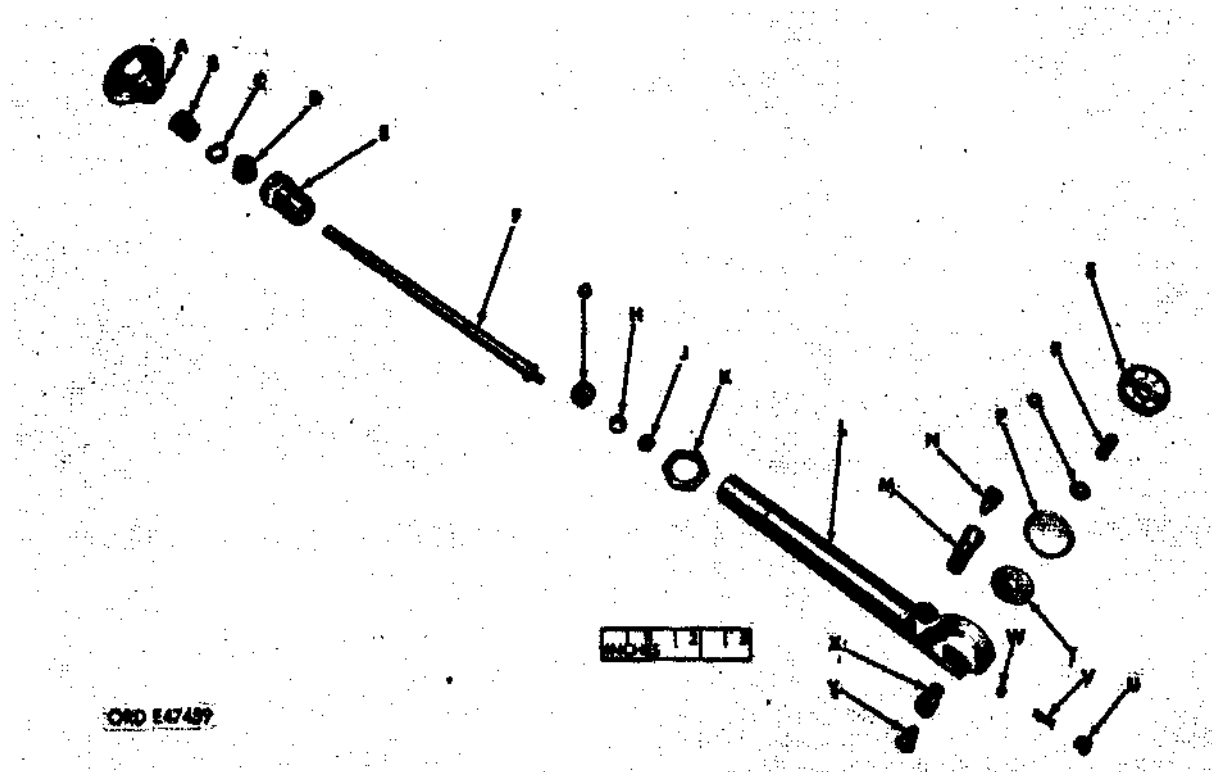

Figure 670. Engine primer pump - exploded view
c. Assemble Plunger to Body. Install plunger (F) (fig. 670), to body (L) (fig. 670), making sure that file marks on cover, line up with file marks on the body.